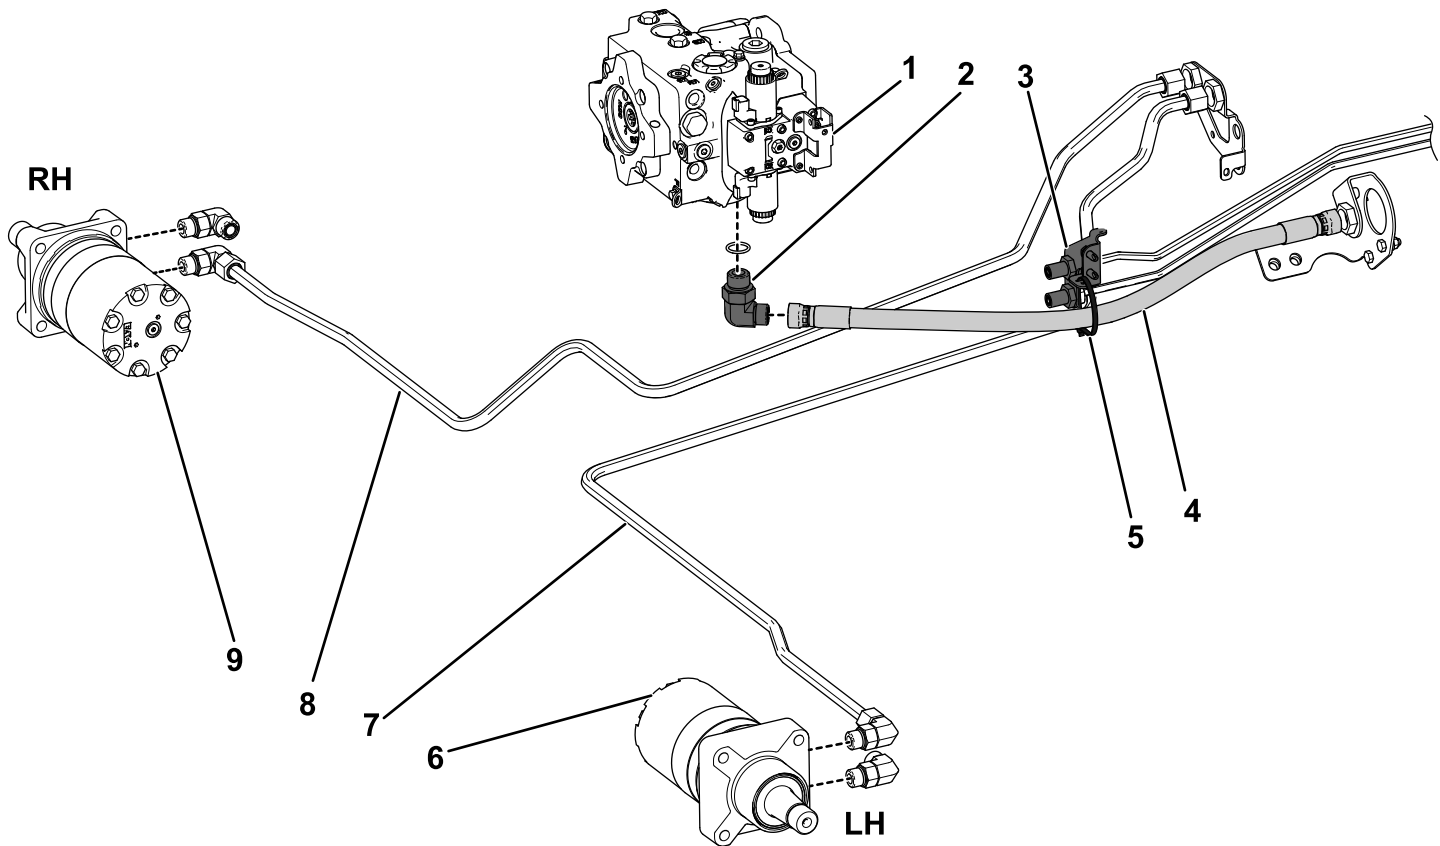

Figure 12
1. Connect hydraulic tube, Part No. 108-7622, to the right wheel motor fitting and to the right hydraulic tube in the right frame bulkhead (Figure 12).
2. Connect hydraulic tube, Part No. 108-7623, to the left wheel motor fitting and to the left hydraulic tube in the right frame bulkhead (Figure 12).
3. Install a 90° hydraulic fitting into the bottom of the variable pump (Figure 12).
- For Models 03950 and 03954, secure the hydraulic hose to the bulkhead bracket with a cable tie as shown in Figure 12.